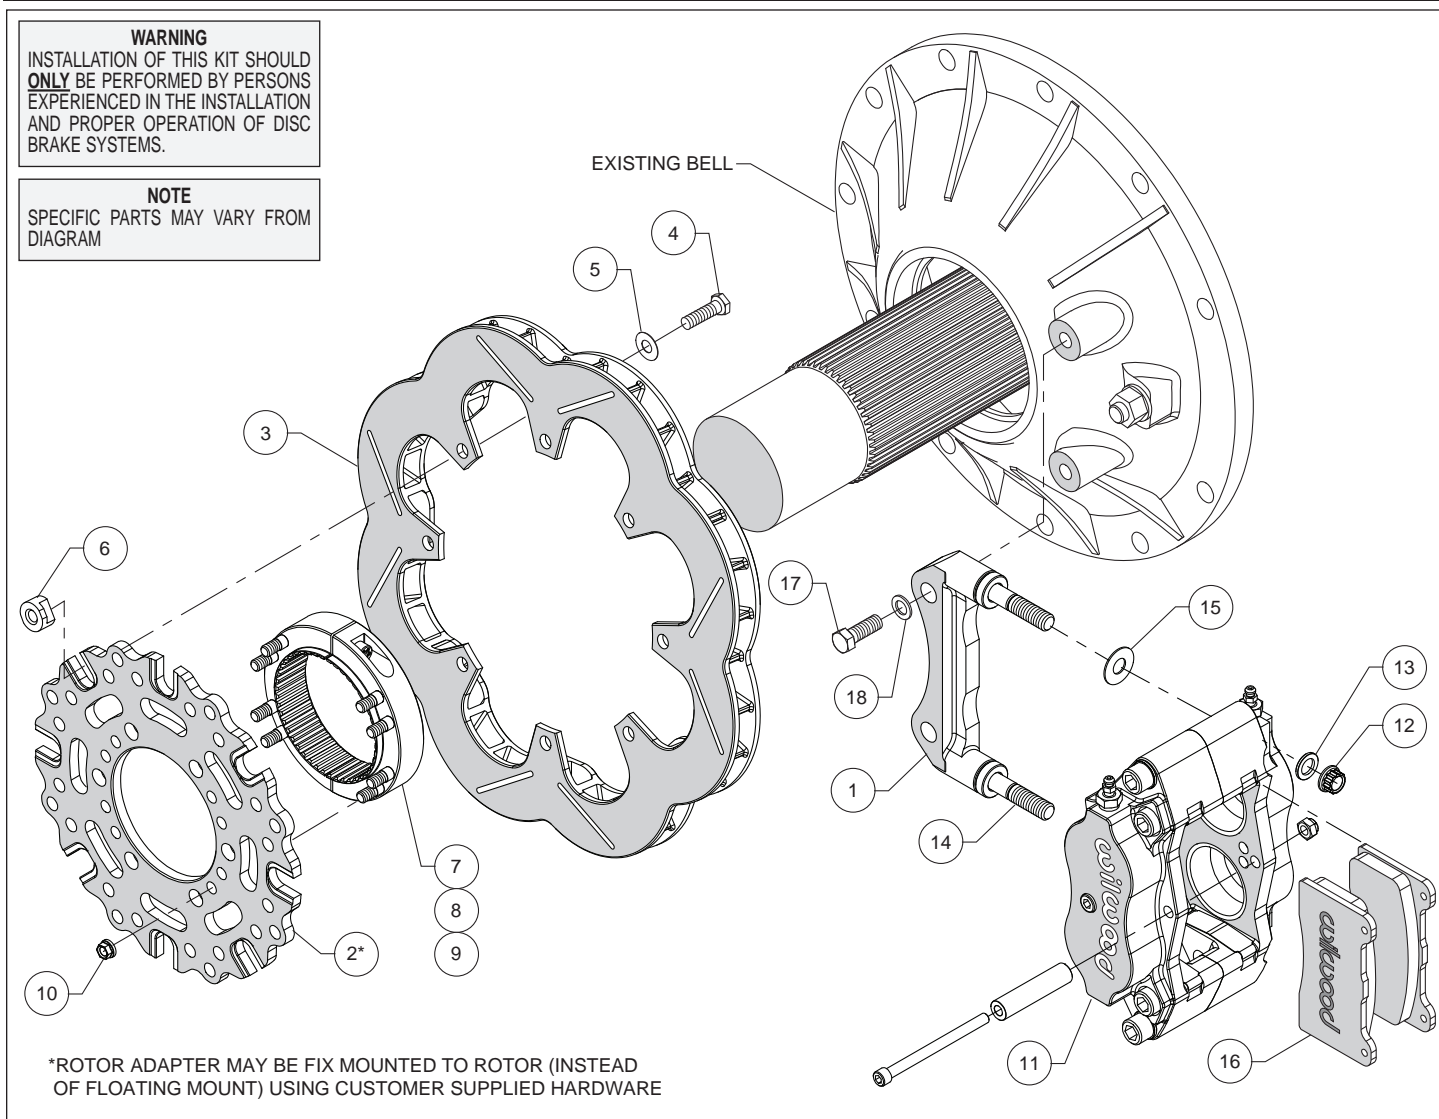

Figure 1. Typical Installation Configuration
- Orient the caliper mount bracket (1) as shown in Figure 1 and install using bolts (17) and washers (18). Temporarily tighten the mounting bolts. **NOTE: The bracket must fit squarely against the mount bosses on the bell.** Inspect for interference from casting irregularities, machining ridges, burrs, etc. Remove the bracket mounting bolts one at a time, apply red *Loctite*® 271 to the threads, and torque to 60 ft-lb.
- Orient the rotor adapter (2) and the rotor (3), as shown in Figure 1, and attach using bolts (4), washers (5), and t-nuts (6), Figure 1. Apply red *Loctite*® 271 to the bolt threads before installing. Finger tighten. After all t-nuts have been installed, torque bolts in an alternating sequence to 220 **in-lbs**. Please refer to Wilwood's data sheet DS-669 (available at [www.wilwood.com/Pdf/DataSheets/ds669.pdf](http://www.wilwood.com/Pdf/DataSheets/ds669.pdf)) for complete t-nut bolt kit installation instructions. **NOTE: Rotor adapter may be fix mounted to rotor (instead of floating mount) using customer supplied hardware.**
- Orient the axle clamp assembly (7, 8 and 9, pre-assembled) as shown in Figure 1 and install onto the rotor adapter (2) using nuts (10). Tighten nuts part way while still allowing clamp-to-rotor movement. The nuts will be final tightened later, after aligning the rotor. **NOTE:** *The axle clamp should be positioned inside of the rotor as shown in Figure 1, not offset, or outside of the rotor adapter.*
- Lubricate the caliper mounting studs (14) with lightweight oil. Initially place one .030" thick shim (15) on each stud as shown in Figure 1. Mount the caliper (11) onto the bracket (1) using lock nuts (12) and washers (13), Figure 1. Temporarily tighten the lock nuts and view the rotor through the top opening of the caliper. The rotor should be centered in the caliper. If not, slide the rotor/adapter assembly on the axle until the rotor is centered in the caliper. Tighten the clamp bolts (9) first, locking the clamp to the axle. Torque nuts (10) to 140 **in-lbs**.
- Remove the caliper center bridge pad retainer bolt, nut, and tube from the caliper. Insert the brake pads (16) into the caliper, with the friction material facing the rotor. Check that the top of the brake pad is flush with the outside diameter of the rotor. If not, adjust by adding or subtracting shims (15) between the caliper and the bracket. After the caliper pad height is set, torque the caliper lock nuts (12) to 30 ft-lb. Secure the brake pads in place with the center bridge pad retainer tube, bolt, and locknut. The locknut should be snug without play in the bolt or tube. Be cautious not to over tighten.